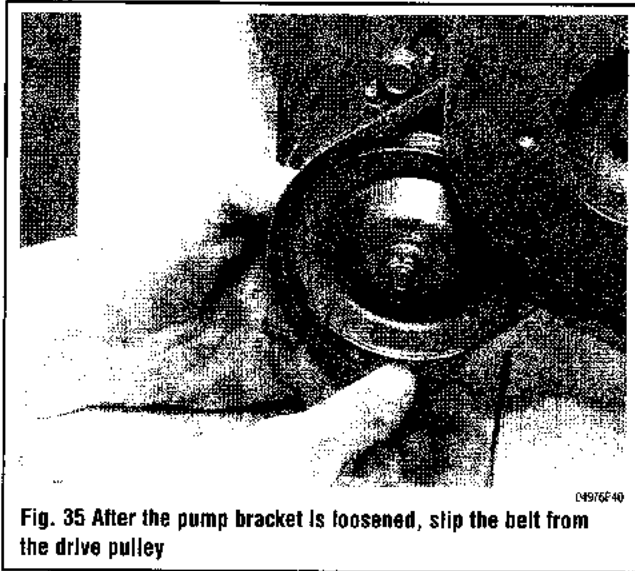

Fig. 35 After the pump bracket is loosened, slip the belt from the drive pulley
▶ See Figures 35, 36, 37 and 38